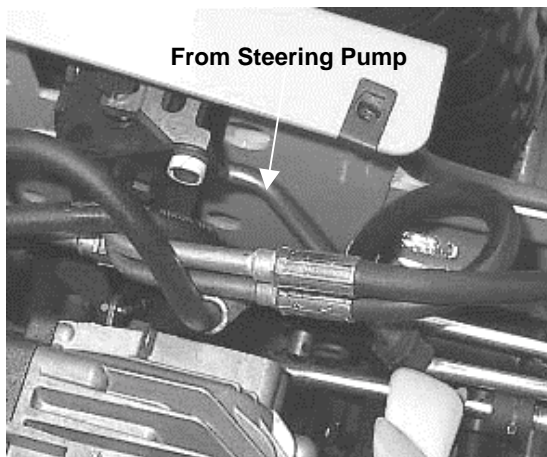

Figure 2
- A) Remove and retain the hex screw and valve clamp securing the hydraulic tube (From Steering Pump to Auxiliary Valve) to the auxiliary valve (Center Lift Valve). See Figure 2.